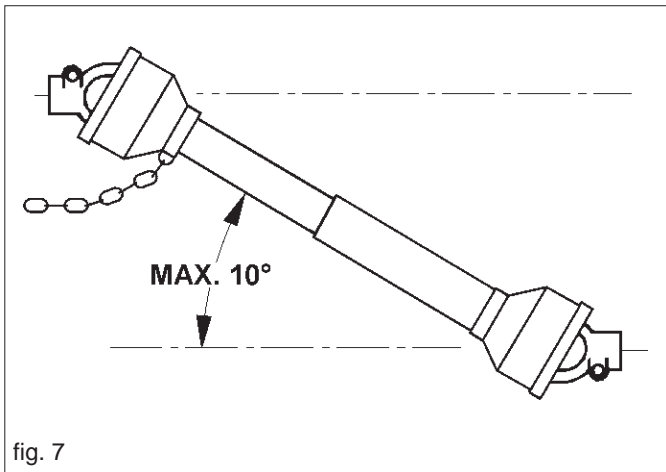

fig. 7
- 49) Always disconnect the power take-off when the Cardan shaft is at too wide an angle (never more than 10° - Fig. 7) and when it is not being used.